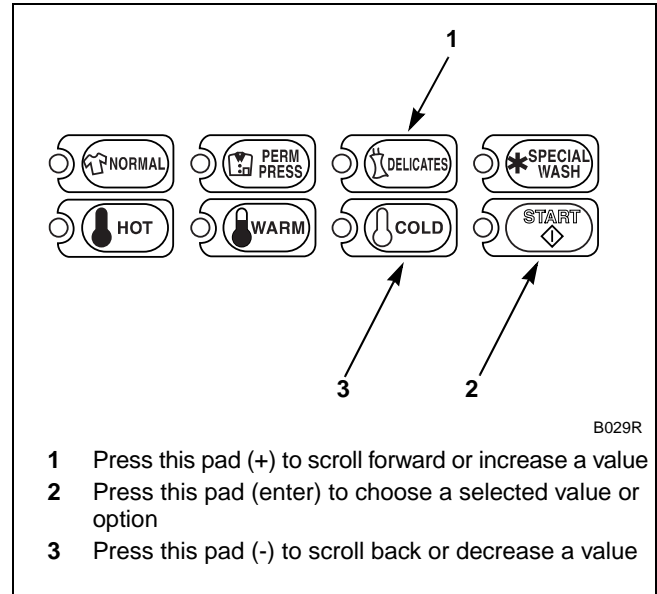

Figure 146
5. Press the DELICATES (+) or the COLD (-) keypad to increase or decrease the current number of minutes displayed in the VFD to the desired number of minutes. Refer to *Figure 146*.
**NOTE: The Permanent Press Wash Fill/Tumble Time can be set from zero (0) to 15 minutes.**